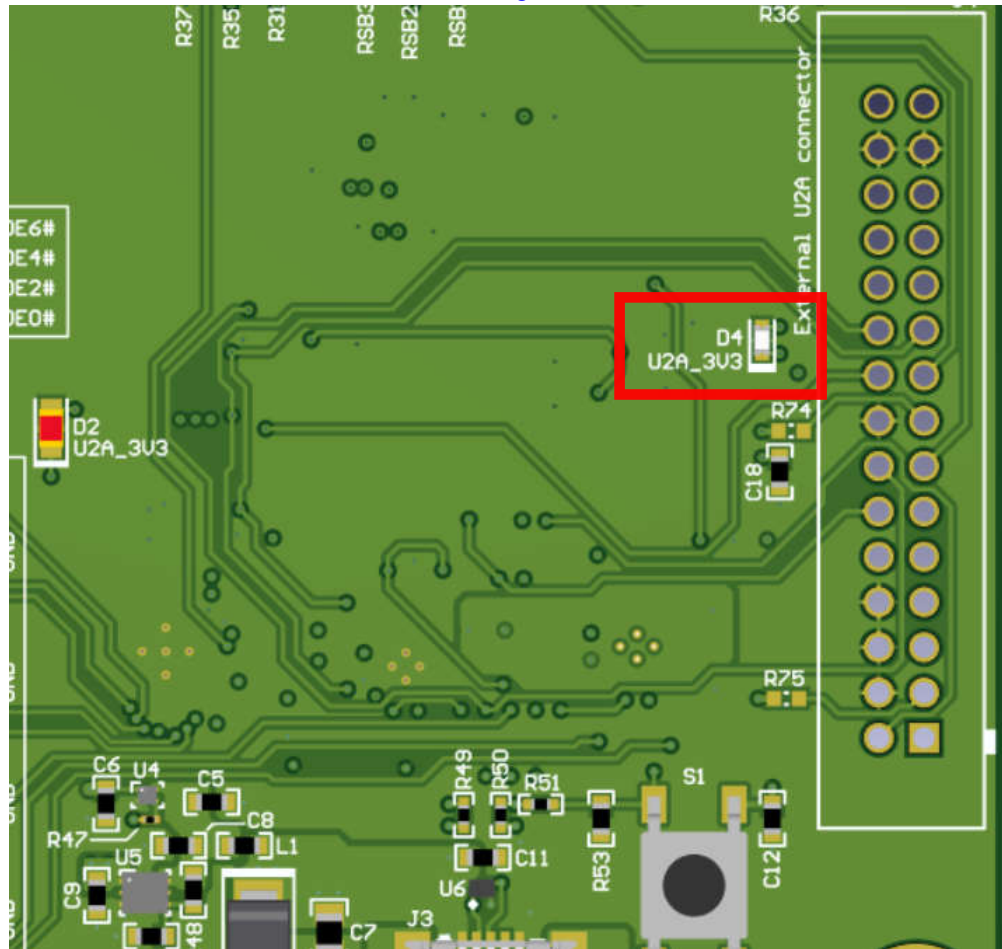

Figure 3-1. USB LED
- iii. Click *Identify* to blink LED shown in Figure 3-1. After clicking the *Identify* button, the LED flashes quickly at about 0.5 second on, 0.5 second off for about 5 seconds. This confirms the connection to the board. However, be aware that USB2ANY devices connected to the PC, but not attached to a TICS Pro instance, can blink at a slow rate of 1 second on, 1 second off continuously.